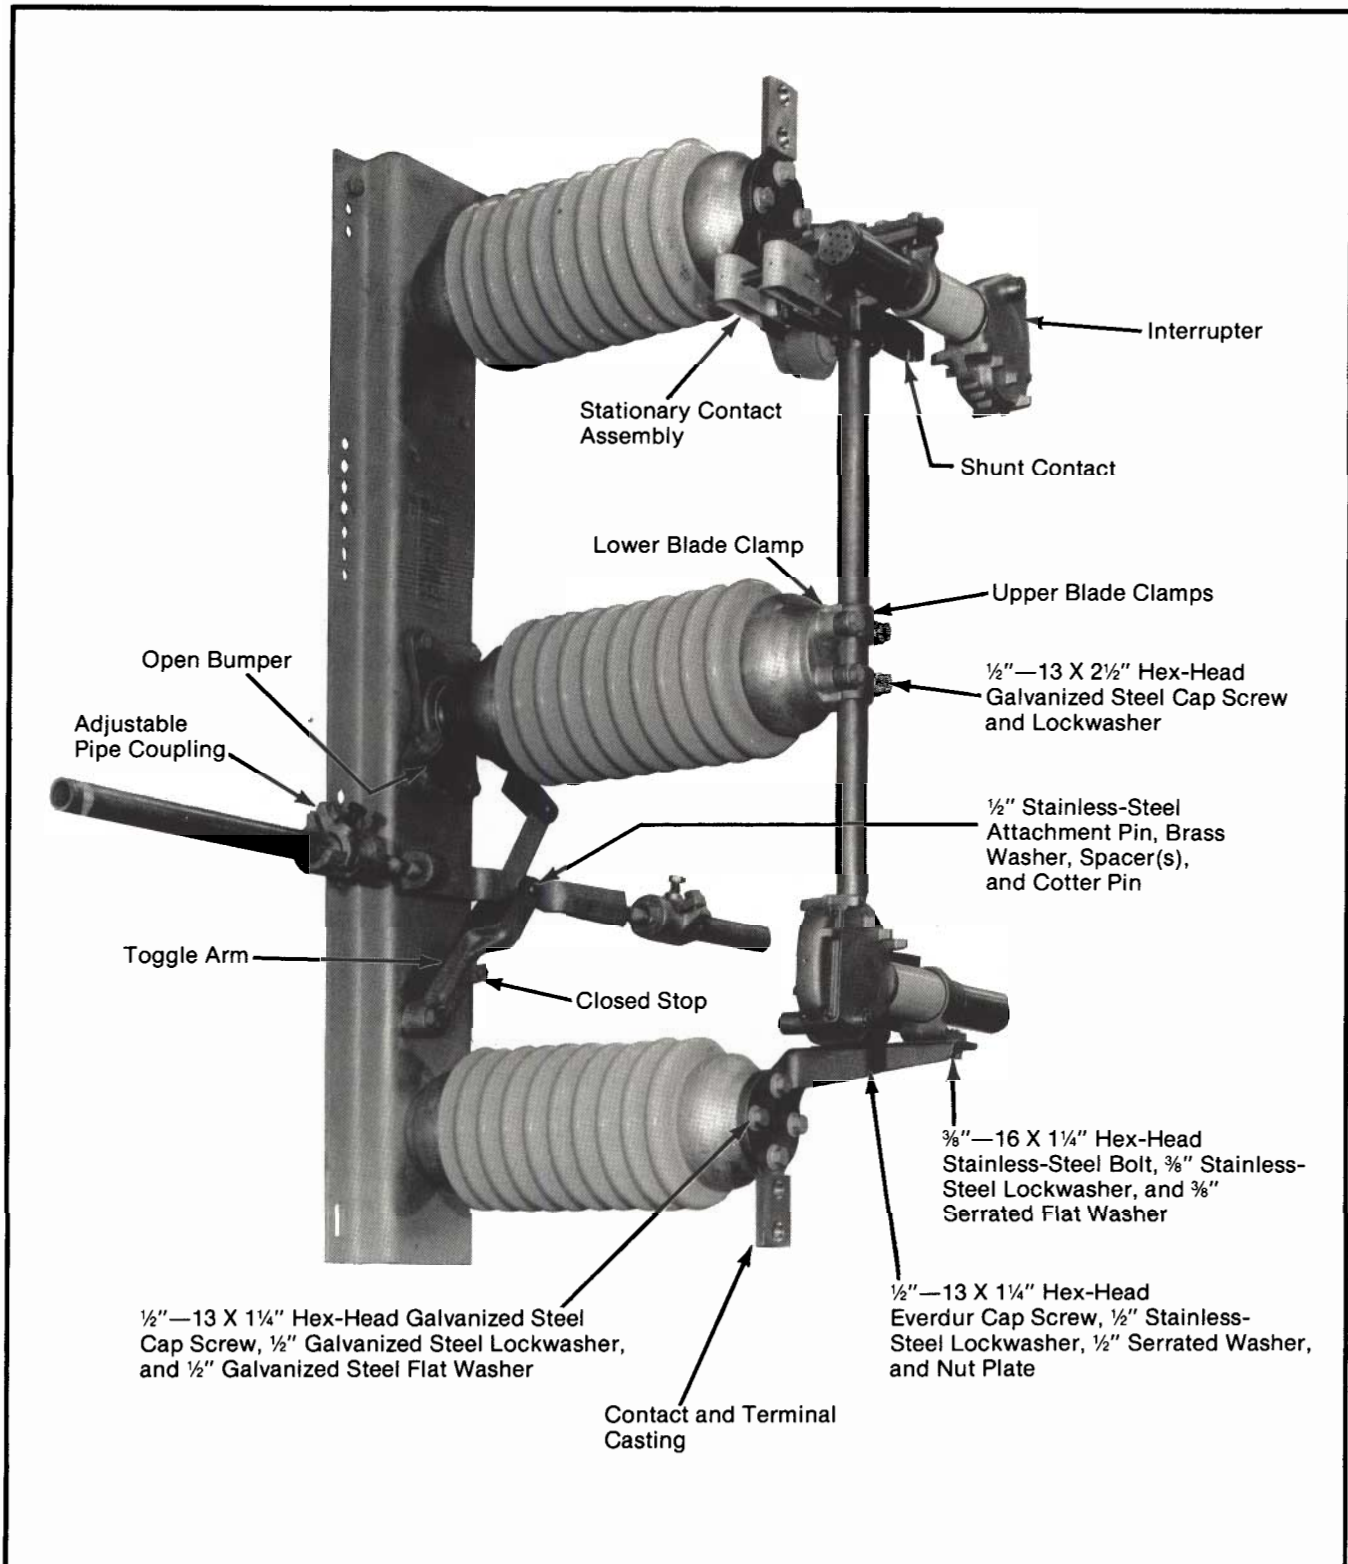
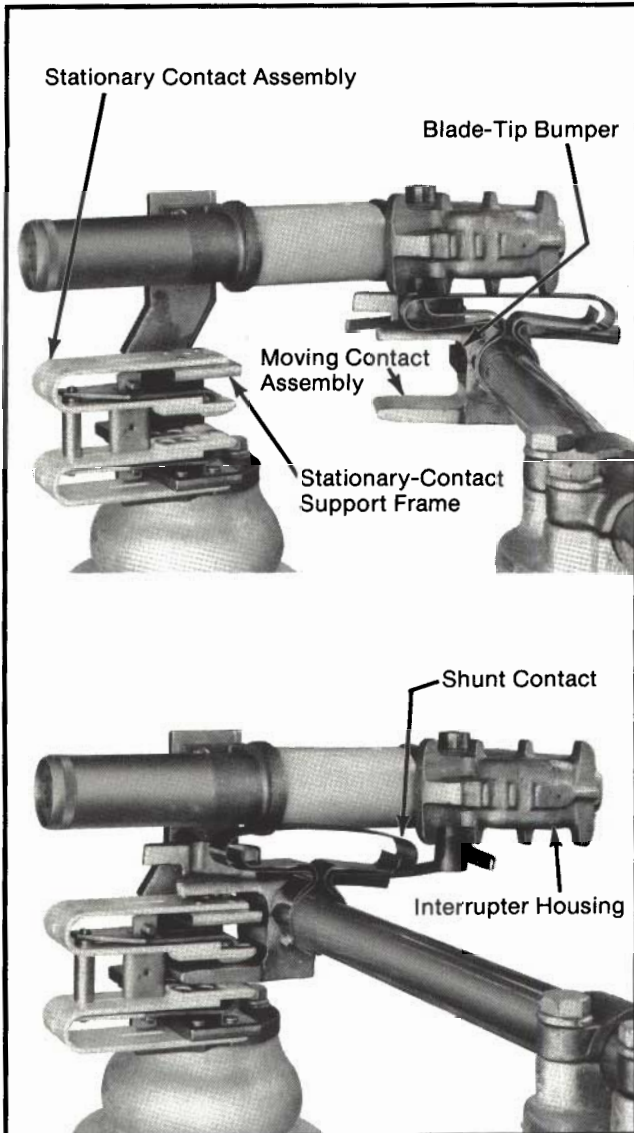
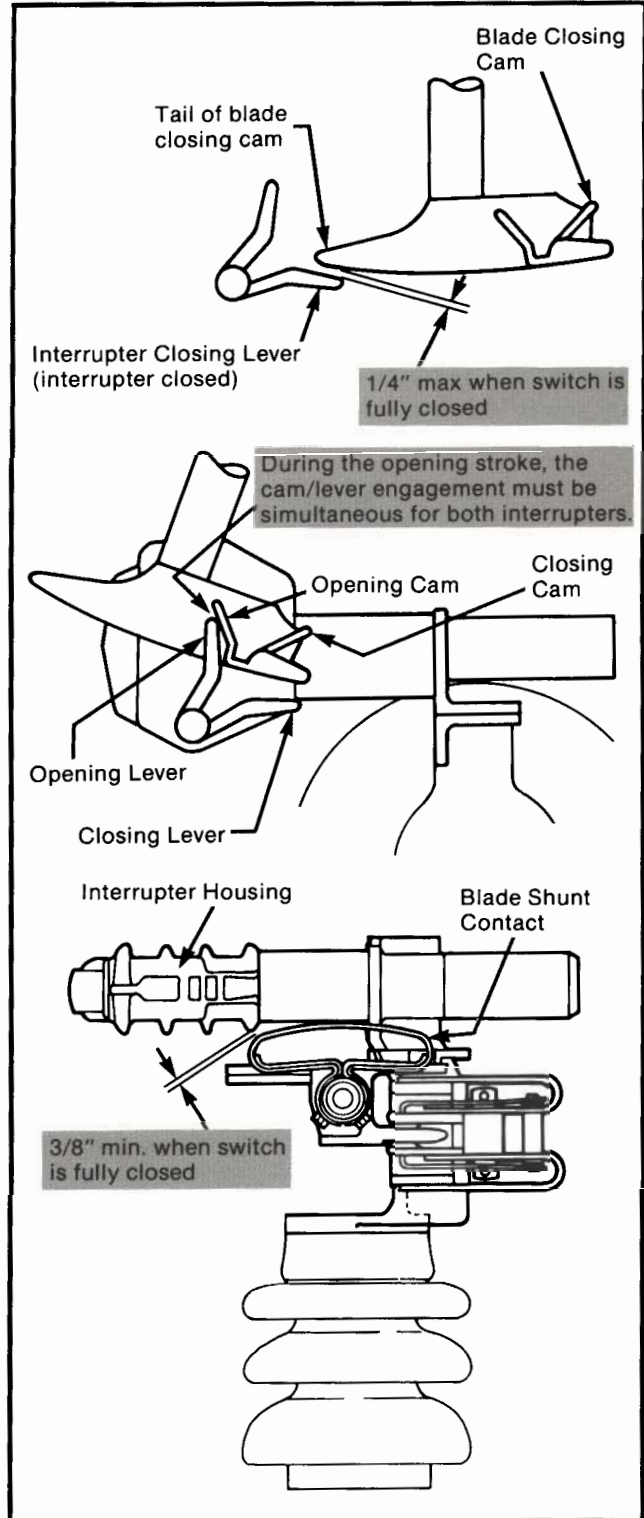

Figure 1. One switch pole of Three-Pole Double-Break Style Alduti-Rupter Switch.
Figure 2. Adjusting the stationary contact. See Steps 7 and 13.
Figure 3. Operating checkpoints. See Step 9.
Place the switch in the open position and, for each switch pole applicable, remove the existing live parts as follows. See Figure 1.
Adjust the stationary contact assemblies so that each moving contact assembly engages its respective stationary contacts on-center and—when the blade assembly is fully closed—each blade-tip bumper engages its respective stationary-contact support frame. See Figure 2 (upper). Then securely tighten the cap screws.
- As the blade moves in the *closing* direction, each blade closing cam must make positive engagement with its respective interrupter closing lever. Also, when the blade assembly is in the fully closed position, each blade closing cam must overlap its respective interrupter closing lever so as to prevent inadvertent opening of the interrupter, and clearance between the tail of each blade closing cam and its respective interrupter closing lever must be within the limit shown in Figure 3 (upper).
- As the blade moves in the *opening* direction, the two blade opening cams must simultaneously make positive engagement with their respective interrupter opening levers as shown in Figure 3 (middle). Simultaneity is essential to ensure that both interrupters share the interrupting duty. The opening lever on one or both interrupters may be bent slightly to attain opening simultaneity.
- With the blade assembly in the fully closed position, verify the minimum clearance between each blade shunt contact and its respective interrupter housing, as shown in Figure 3 (lower). Then move the blade in the opening direction and verify that each blade shunt contact firmly engages its respective interrupter housing before the blade disengages from the jaw contacts. (The shunt contacts may be bent as required to conform to these conditions.)
- With the operating handle as far as it will go in the closing direction, both of the main contacts of each switch pole are fully closed with the blade-tip bumpers against the stationary-contact support frames as shown in Figure 2 (lower). Each switch-pole toggle arm should lie against its closed stop, as shown in Figure 1. The outboard bearing crank-arm(s) should be in the over-center toggle position and lie against the stop-bolt(s). See Figures 3, 4, and 5 of S&C Instruction Sheet 761-500 or 761-505, furnished with the switch.
The factory settings of the outboard bearing crank-arm length and the stop-bolt may require readjustment in order to provide the correct amount of stroke and toggle action. If more stroke is required, lengthen the outboard bearing crank-arm (in increments of 1/8 inch) until the blades are fully home in the closed position. See Figures 3, 4, and 5 of S&C Instruction